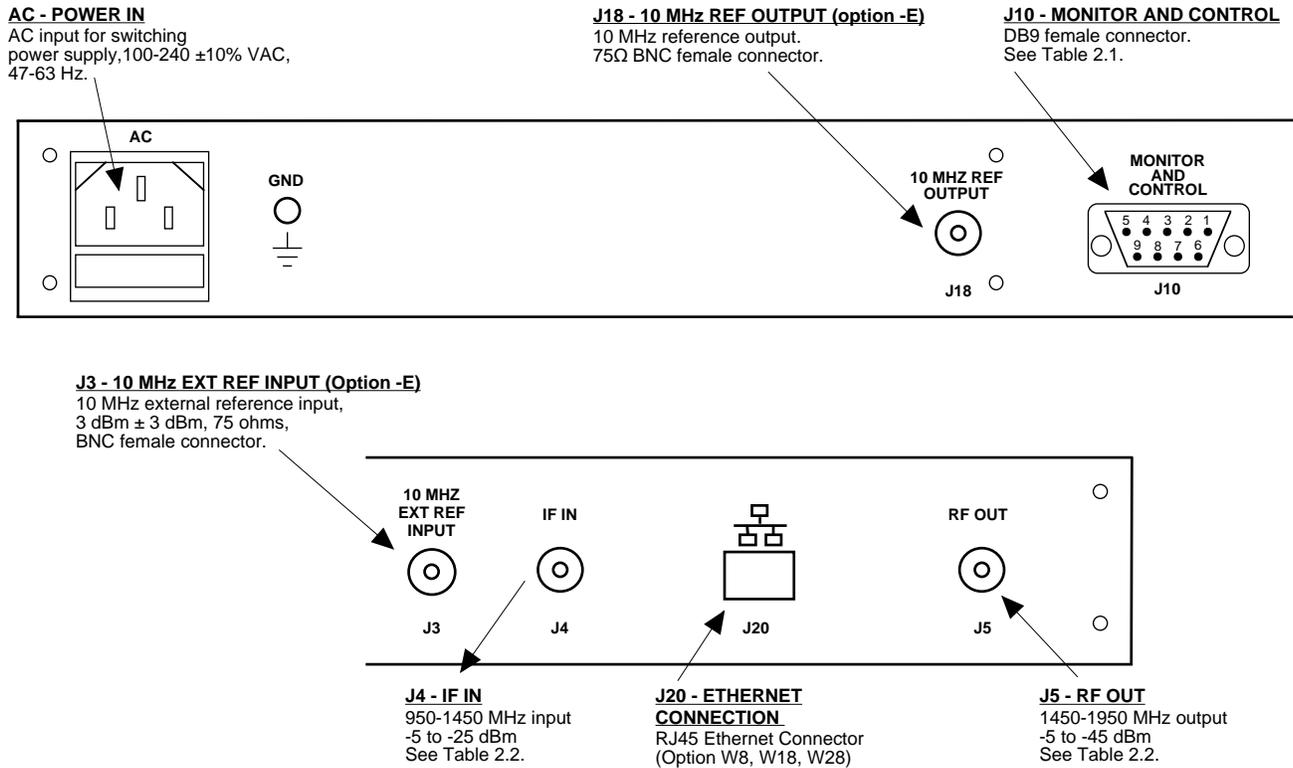

FIGURE 2.2 2083-0914 Rear Panel I/Os
2.2 Rear Panel Input/Output Signals - Figure 2.2 shows the input and output connectors on the rear panel.
1. Connect a -5 dBm to -25 dBm signal to IF IN, J4 (Figure 2.2)